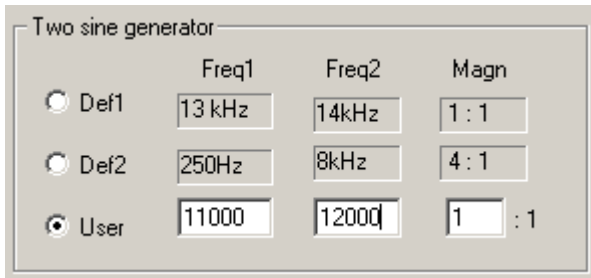

Figure 2.20
3. In the dialog box 'Signal Generator Setup', set two sine frequencies in User section to 11000Hz and 12000 Hz, and an amplitude ratio to 1:1, as shown in Fig. 2.20.